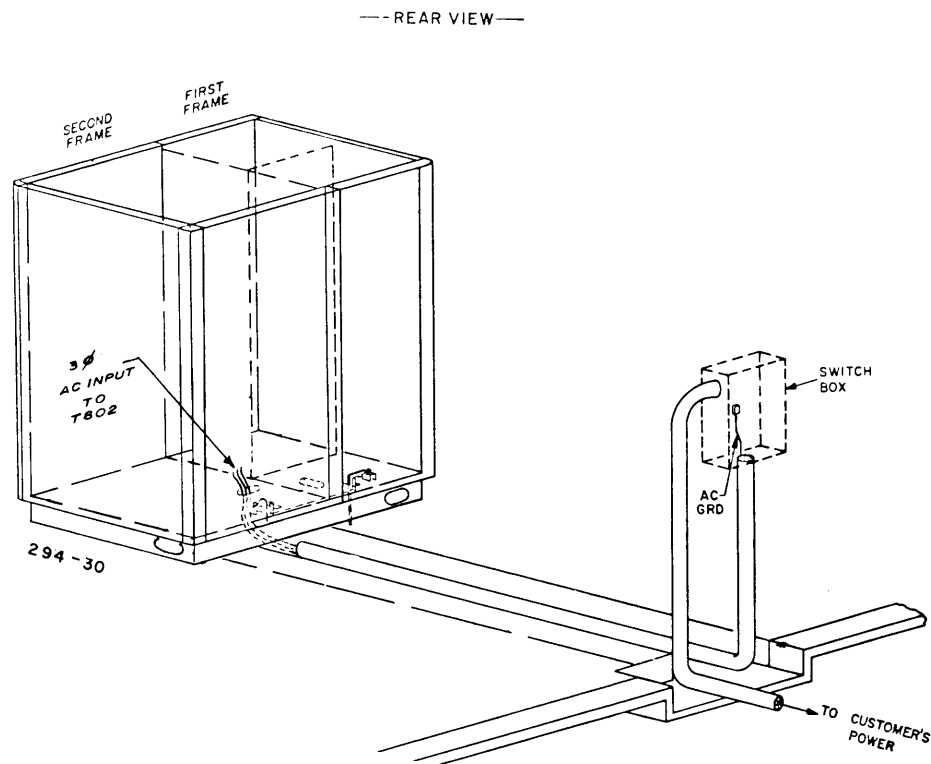

Figure 2-2. Typical Input Power Cabling, Installation Diagram
f. AC INPUT CABLING AND POWER REQUIREMENTS. - Three methods of laying out input power cables can be used. The sub-floor-level cable raceway method, figure 2-2, requires provisioning for troughs during building construction. If these provisions have not been made, removable access plates, on the base assembly, permit cable entry in the floor-level and over-head routing methods.
- (5) Physically route ac input power and signal cables into base assembly (refer to figure 2-2).